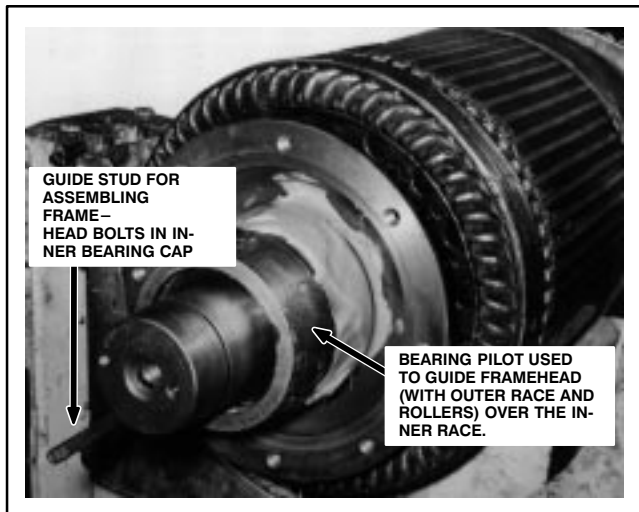

FIG. 19. DRIVE-END BEARING PILOT AND GUIDE STUD INSTALLED. E-27165.
8. Install the drive-end bearing pilot on the rotor shaft (Fig. 19). Screw a guide stud into one of the threaded holes in the inner bearing cap (11).
9. Apply the gasket (7) over the guide stud to the rotor drive-end inner bearing cap (11).